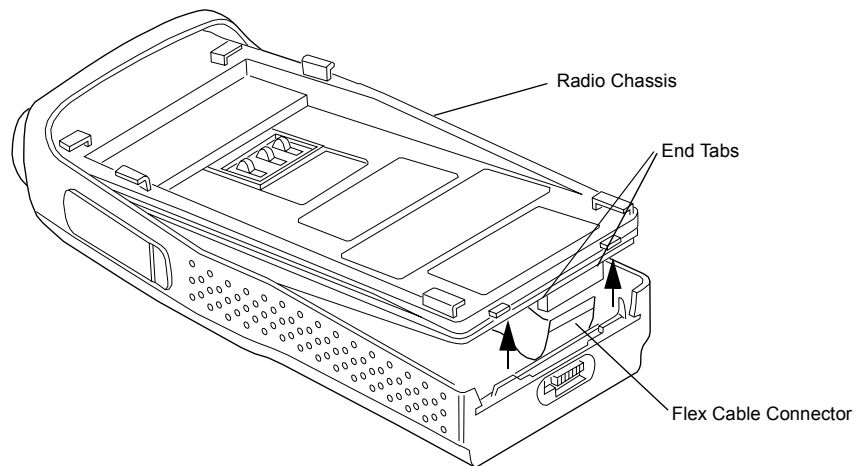

Figure 6-19. Keyboard Flex Cable Connection
2. Position the radio (Figure 6-19), and reconnect the flex connector from the keyboard into the connector located on the bottom of the main board, pushing up the 2 end tabs.